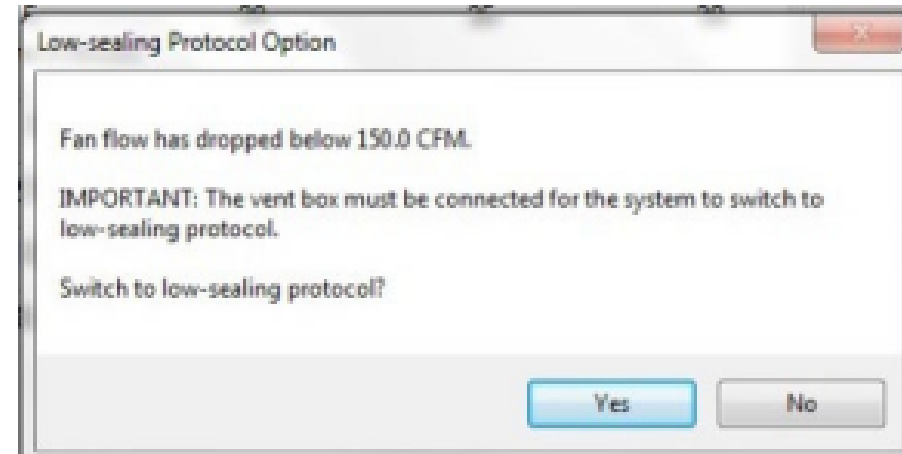

Figure 6. Low Sealing Protocol Pop-Up
6. Option #1: Click **Yes**. (See Figure 6)